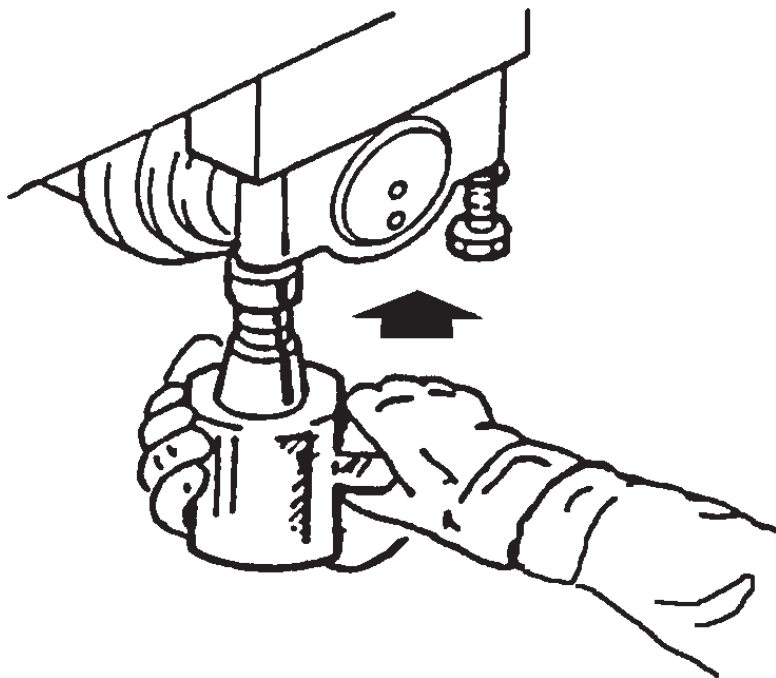

Fig. 3-89 Track Roller - install
6. Install track roller assembly on track frame (fig. 3-89). Torque capscrews according to "Metric Bolt Torque Specifications" in this section.